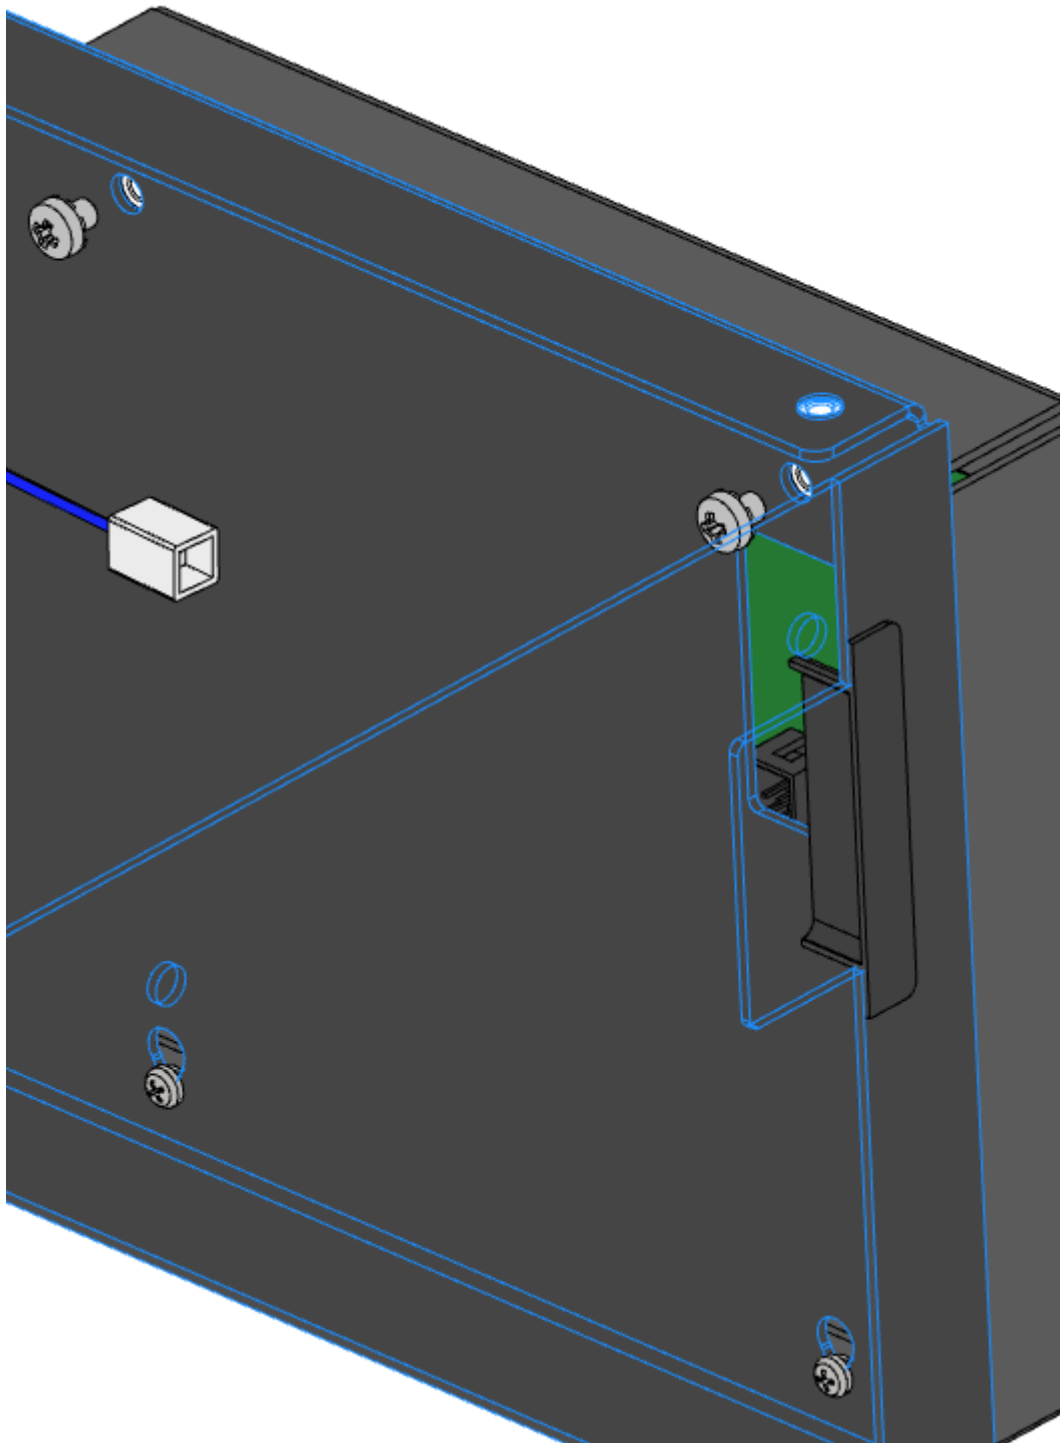

Figure 57 Locked lower locking screws
6. Place the UI box so that the lower 2 locking screws fall into the keyhole (see Figure 57)